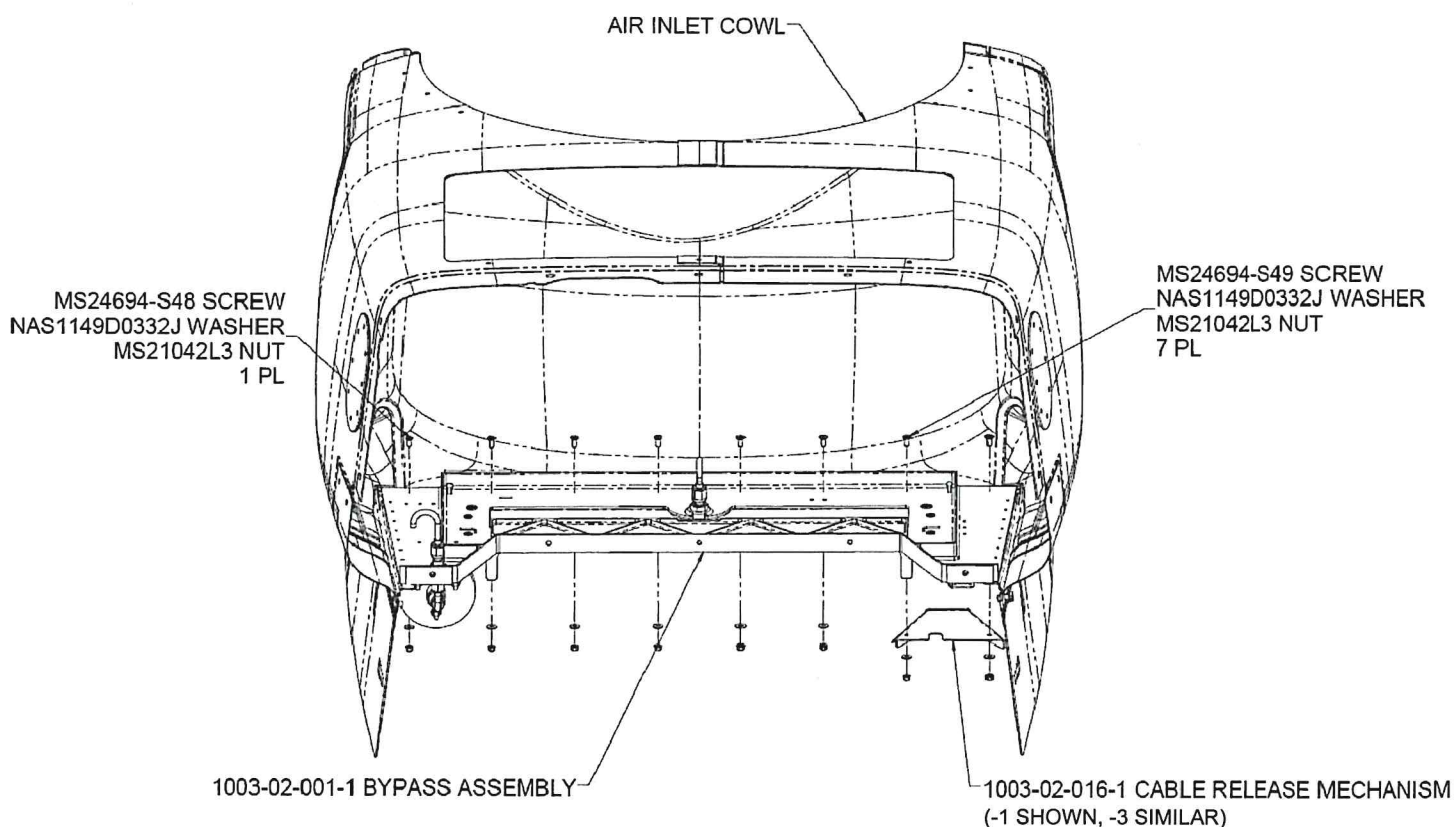

FIGURE 2 - 1003-02-016-3 CABLE RELEASE MECHANISM REPLACEMENT
6. Install the 1003-02-016-3 Cable Release Mechanism in place of the 1003-02-016-1 Cable Release Mechanism per Figure 2.